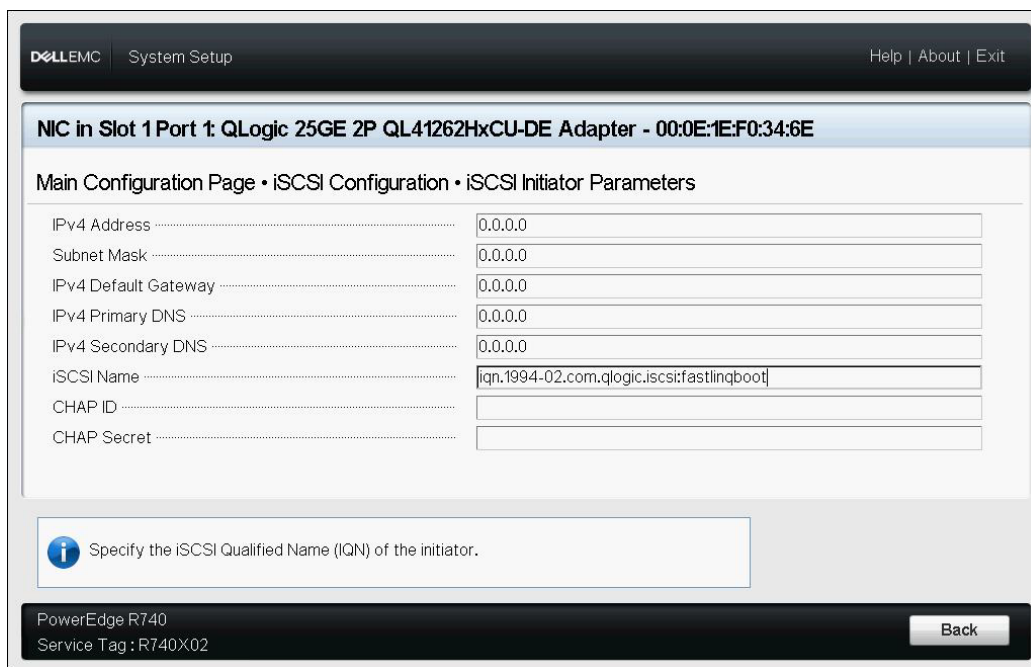

Figure 6-9. System Setup: iSCSI Initiator Parameters
6. On the iSCSI Initiator Parameters page (Figure 6-9), select the following parameters, and then type a value for each: